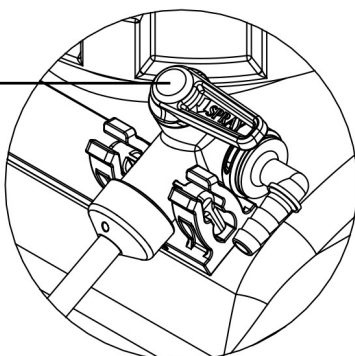

fig.12
- 8.2.1. If needed, rotate the broadcast nozzle so that the spray pattern is pointed down and evenly distributed. (fig.12)